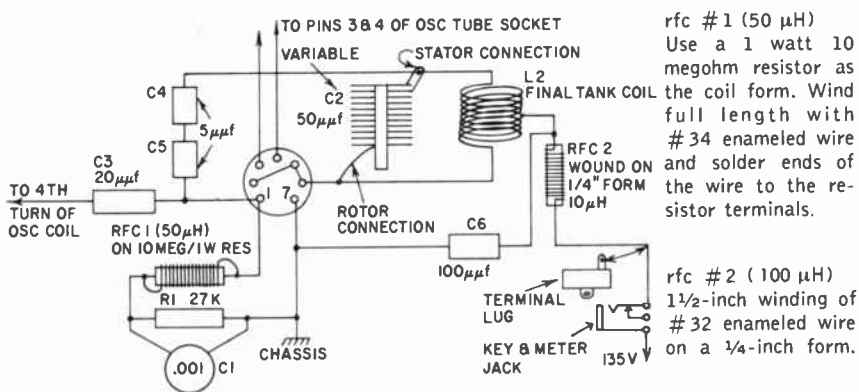

Fig. 707. Pictorial diagram of the amplifier.
3 and the end of the other lead to pin 4 of V2. These are the filament pins of this tube. Run these leads close against the panel. (Construction details are given in Fig. 707.)
19. Construct the two radio-frequency chokes RFC1 and RFC2. (Construction details are given in Fig. 707.)
28. Referring to Fig. 707, mount one insulated terminal solder lug in the position shown.